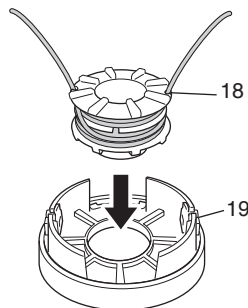

Fig. 24
- (5) Insert both loose ends of the line through the cord guide (19) when placing the reel in the case. (Fig. 24)